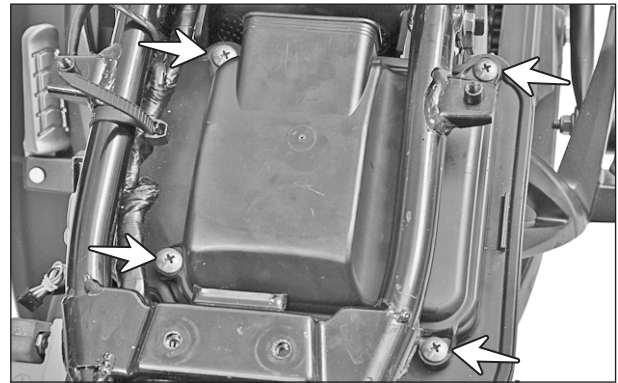

Fig. 2.44
- Remove the CRR pan head screw (M5x16 - 4 nos.) from the cover filter element. (Fig. 2.44)